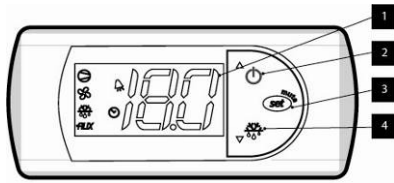

Fig. 36
4. Press the "SET" key (3) and hold it for five seconds. The display (1) will indicate the actual chilled water temperature setpoint (ST1).
5. Release the "SET" key (3).
- "▲-key" (Fig. 36/2) will increase the chilled water temperature setpoint
- "▼-key" (Fig. 36/4) will decrease the chilled water temperature setpoint.
7. Press the "SET" key (Fig. 36/3). The adjusted chilled water temperature setpoint will be saved
8. Press the "SET" key (Fig. 36/3) again to return to the standard operating mode.